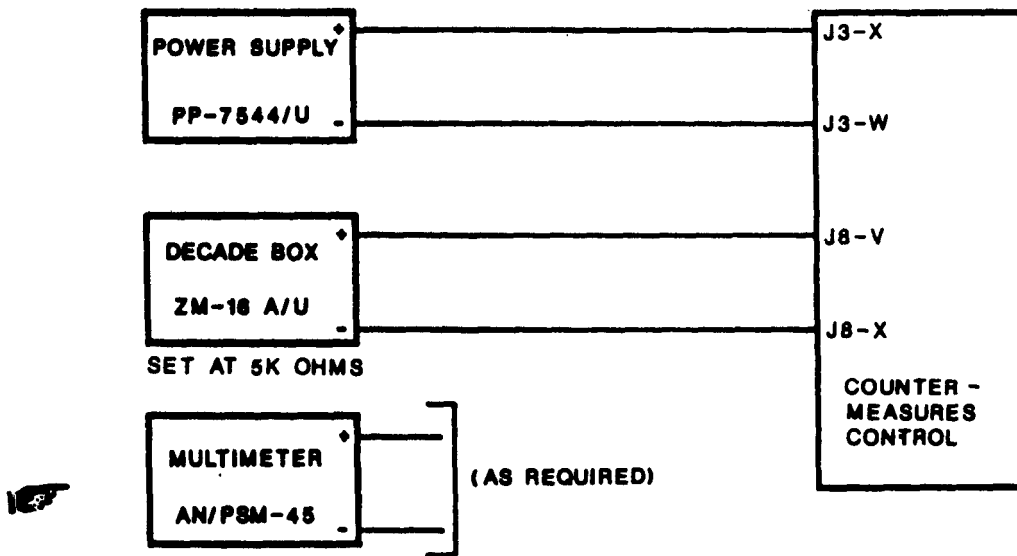

Figure 5-2. Countermeasures Control Lamp Adjust Test Setup
a. Establish test setup shown in figure 5-2.